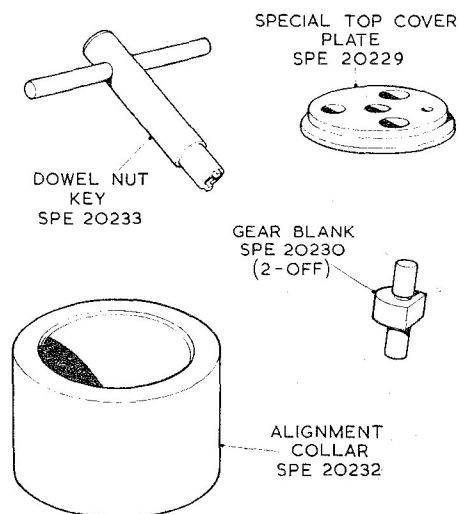

Fig. 18. Gear pump unit, special tools
(5) Withdraw all the components from the special tool SPE.20227 and re-assemble using the special top cover plate SPE.20229 (fig. 18). Do not assemble any gears at this stage. Insert one dowel screw (81) using selective assembly to ensure a push fit in the location hole. Screw the nut (85) on to the end of the dowel screw. Remove the special tool SPE.20227 and insert a second dowel screw and nut.
(6) Place the assembly into the alignment jig, tighten the two dowel screws and place the location block SPE.20222 over the alignment jig, as in para. 28(2) and (3). Place the clamping ring SPE.20223 over the socket head screws and turn the ring to the left to engage the keyhole slots with the shanks of the socket head screws. Tighten the socket head screws evenly.
(7) Using a tipped reamer SPE.20228, ream through the two small bush holes. The hole size in the carbon bushes should be between 5.5 mm. and 5.413 mm. Remove the reamer, the clamping ring and the location block, then withdraw the pump assembly from the alignment jig.
(8) Using a screw driver, in the dowel screw slots, and the special key SPE.20233, unscrew the nuts and withdraw the dowel screws.
(9) Starting with the top cover plate (79), assemble the upper bearing block (82) and the upper gear end bearing plate (78), ensuring that the coated face is towards the gear chamber, then assemble the gear chamber (83) and the gears (60 and 77). Ensure that the extended shaft protrudes from the top cover plate; the outlet holes in the gear chamber periphery should be positioned radially away from the inlet in the top cover plate. Assemble the lower gear end bearing plate (76) with the coated face towards the gears, then assemble the lower gear bearing block (84), and the lower gear end plate (75). Insert one dowel screw (81) from the upper end, and screw on the slotted nut (85). Remove the special tool